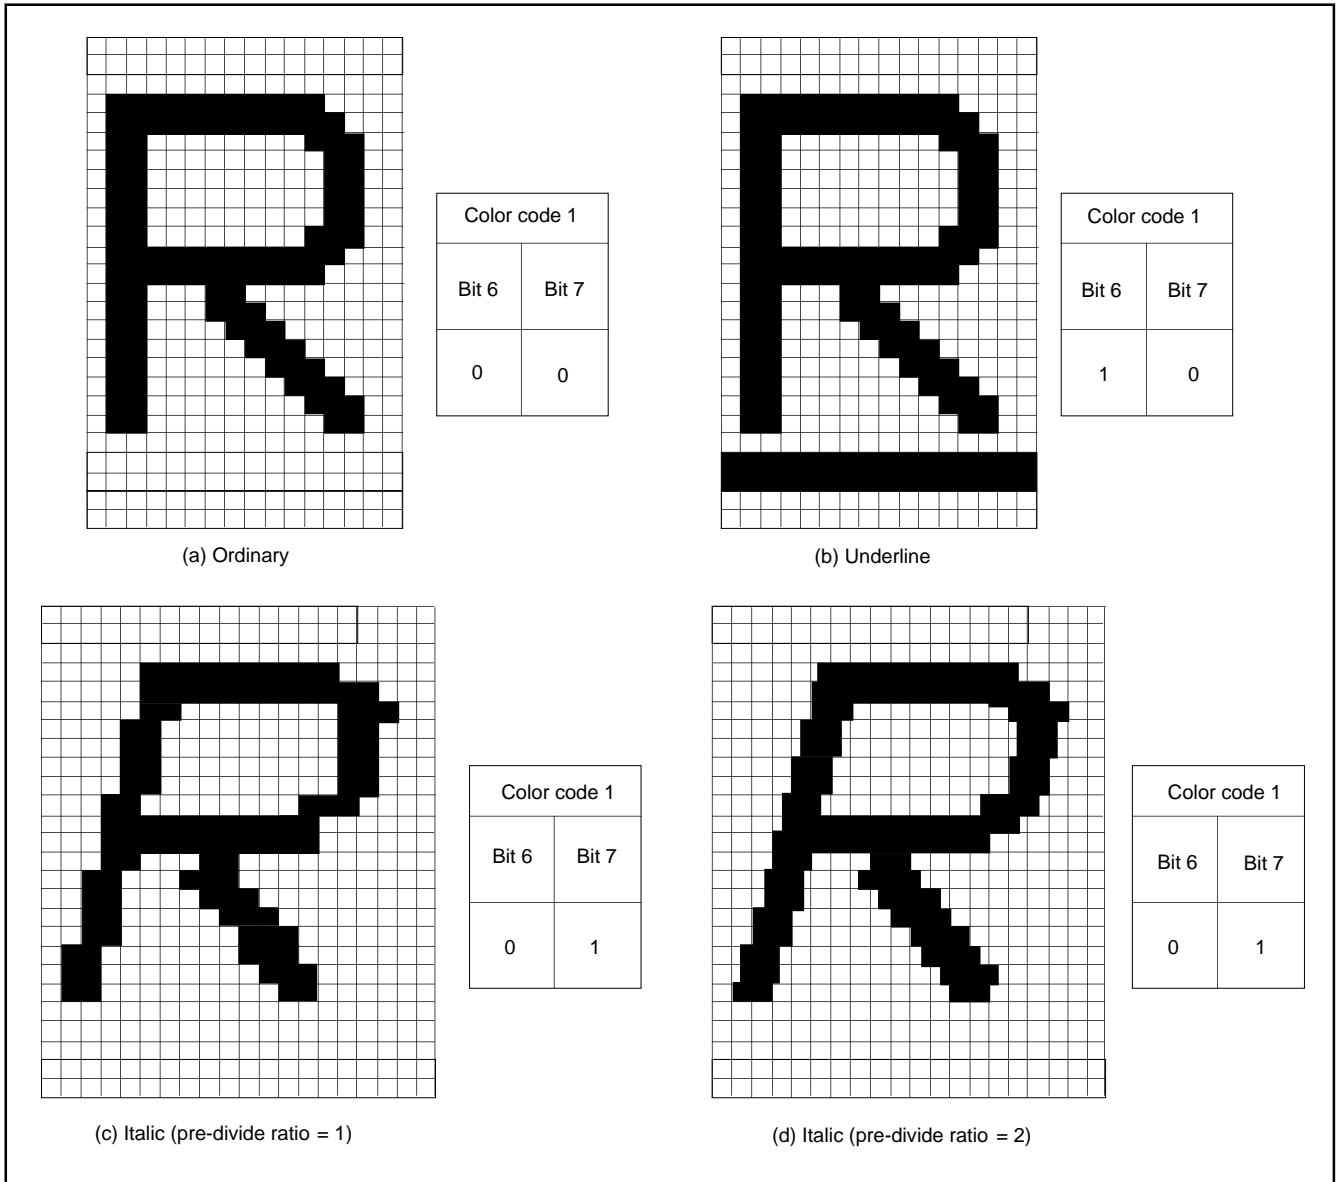

Fig. 84. Example of Attribute Display (in CC mode)
- 2:** When the pre-divide ratio = 1, the italic character with slant of 1 dot 5 5 steps is displayed (refer to Figure 84 (c)). When the pre-divide ratio = 2, the italic character with slant of 1/2 dot 5 10 steps is displayed (refer to Figure 84 (d)).